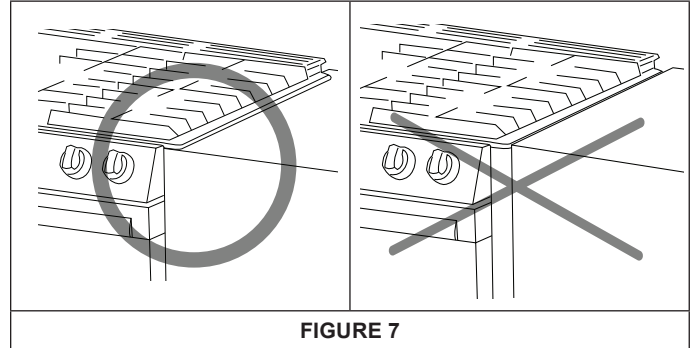

FIGURE 7
- The metal flange under each side of the cooktop **MUST** be placed over the cabinet countertop for proper unit support. The cooktop should **NOT** rest directly on the countertop or else it could cause damage to the cooktop voiding the warranty. See Figure 7.